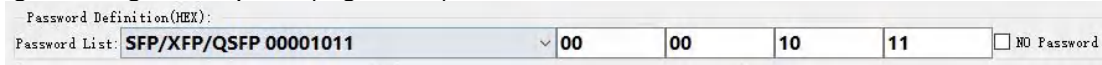

Figure 46
3.1.1 Select the configuration file “SFP/XFP/QSFP 00001011” corresponding to the QSFP28 100G ER4 code “00001011” (Figure 46)
3.2.1 Select the configuration file “SFP/XFP/QSFP 00001011” corresponding to the QSFP28 100G ER4 code “00001011” (Figure 46)